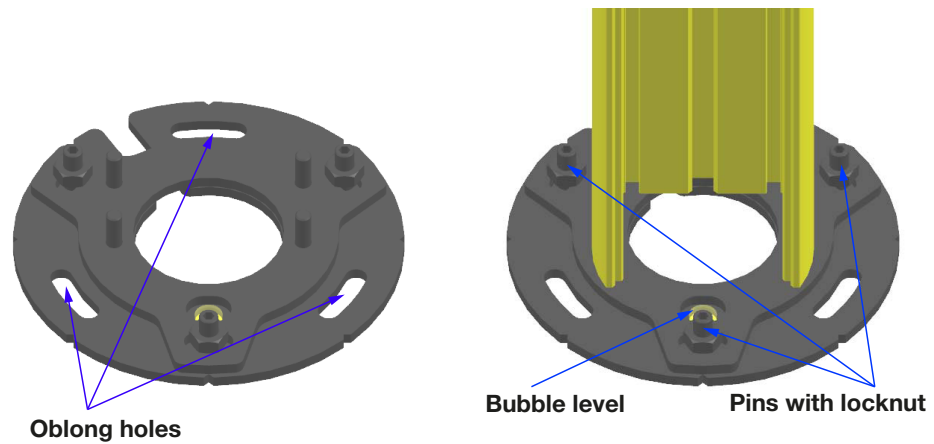

Figure 23: Attaching the base plates to the floor (left), leveling and angle setting of the base plate (right)
- Insert the mirror into the side guides of the floor stand (Figure 23).